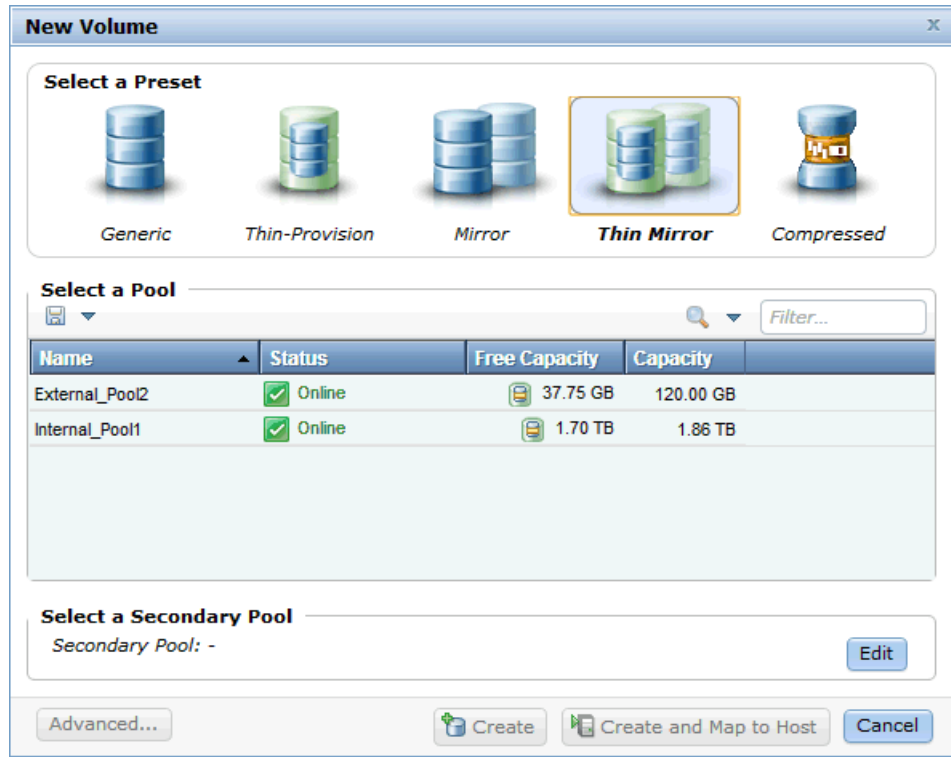

Figure 6-15 Thin Mirror - select the primary pool
1. From the New Volume window, select **Thin Mirror** (Figure 6-15).